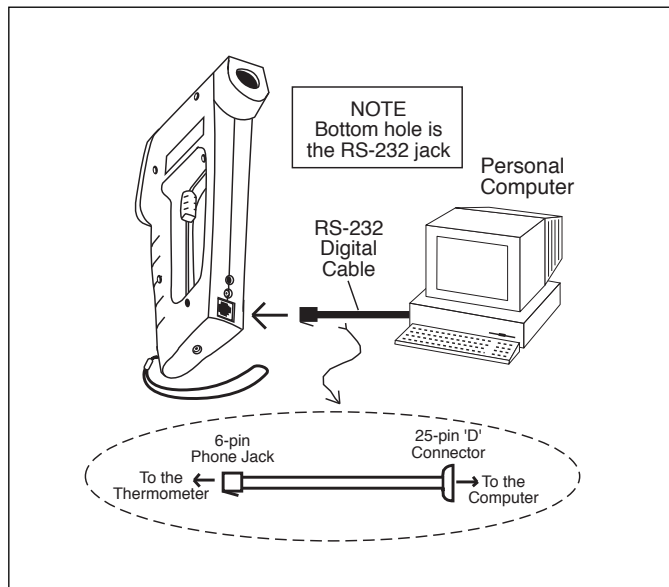

Figure 2-11. Personal Computer Hookup
2. Connect the RS-232 cable between the thermometer and the serial port (RS-232) of the Personal Computer as shown in Figure 2-11.